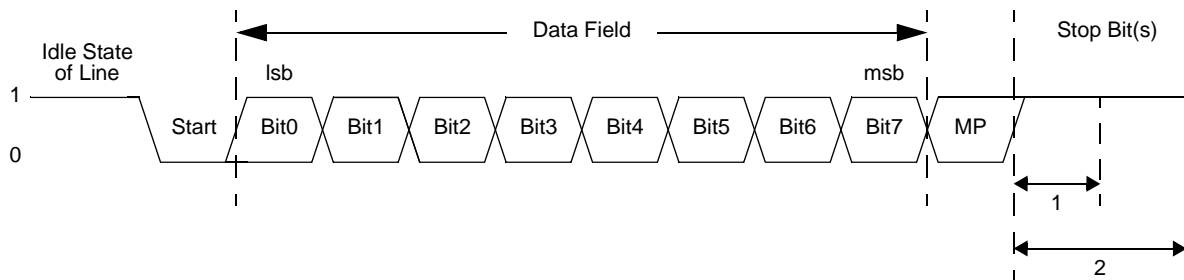

Figure 15. UART Asynchronous MULTIPROCESSOR Mode Data Format
The UART has a MULTIPROCESSOR (9-Bit) Mode that uses an extra (9th) bit for selective communication when a number of processors share a common UART bus. In MULTIPROCESSOR Mode (also referred to as 9-Bit mode), the multiprocessor bit (MP) is transmitted immediately following the 8 bits of data and immediately preceding the stop bit(s); the character format is displayed in Figure 15.